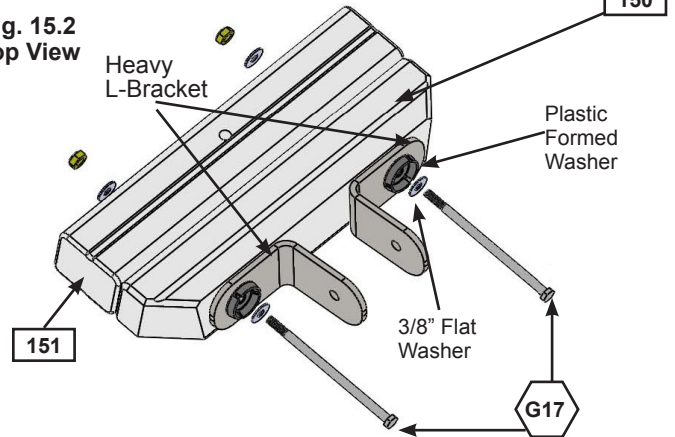

Fig. 15.3
B: Attach 3 (WB7) 5/16 x 3" Wafer Bolts (with flat washer and t-nut) to all three holes in each (152) SW Post as shown in fig. 15.3. **IMPORTANT! MAKE SURE ALL 6 BOLTS ARE ATTACHED TO MINIMIZE CHECKING OF WOOD.**